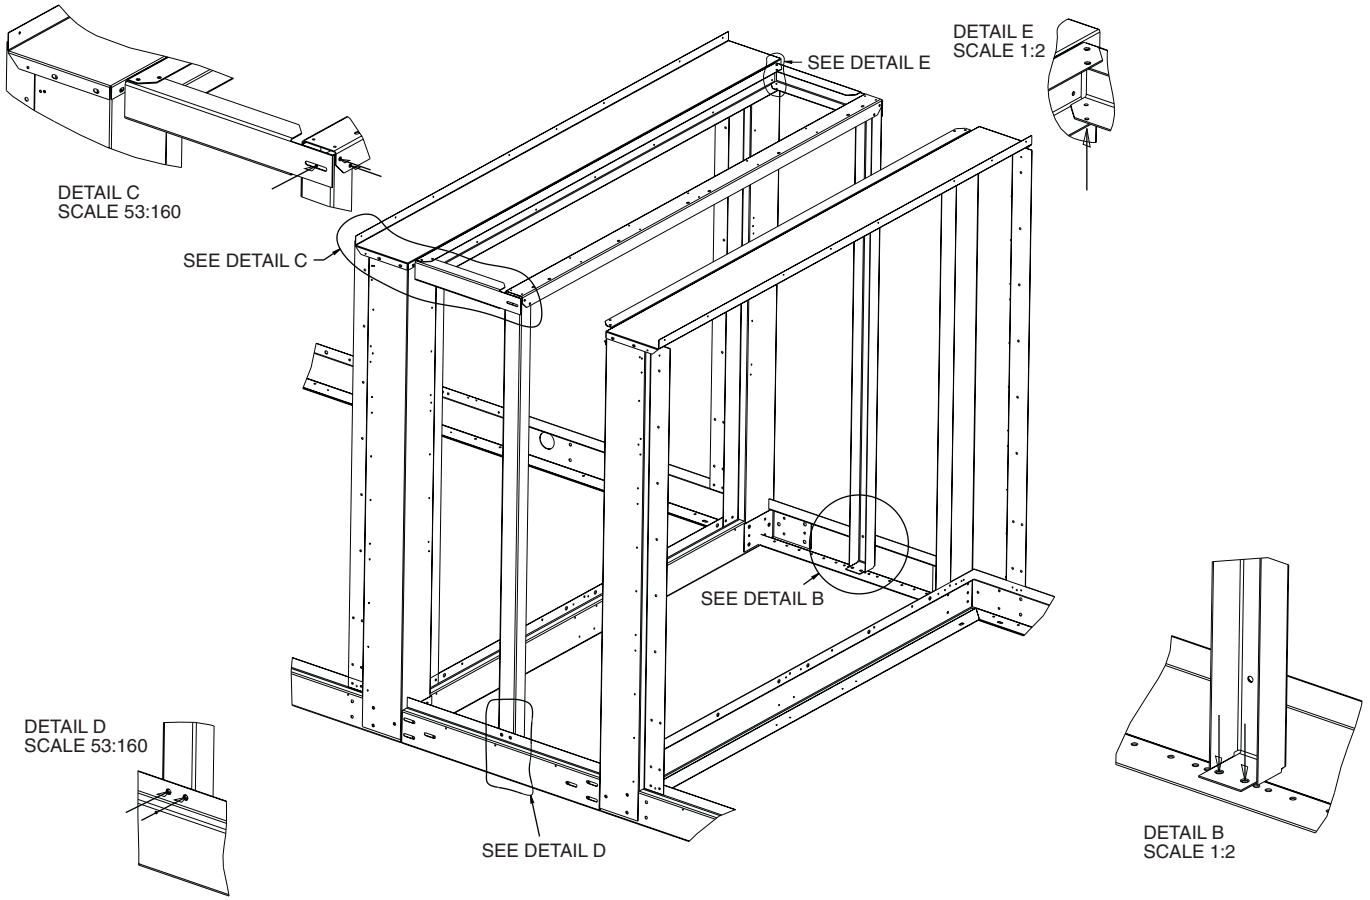

Fig. 4 — Support Channel and Spacer Mounting
6. Using the 3/8-in. screws (Item 9) provided, mount each upright (Item 5) to the center of each base rail section with four screws. See Details B and D in Fig. 4.
8. Using the 1/4-in. screws (Item 8) provided, mount one top support channel (Item 6) across the two uprights mounted in Step 6. Again using 1/4-in. screws, mount the remaining two top support channels to the header end top cover of each module. The channels are mounted with the flanges facing the center section. See Fig. 4.
9. Using the 1/4-in. screws (Item 8) provided, mount the two horizontal spacers (Item 7) on the inside of both ends of one top support channel. Install two screws from the bottom only. Do NOT install any screws from the top as they will interfere with top cover fit-up. Use one screw in the other end of the spacer (slotted end) and secure each spacer to the center upright. See Details C and E in Fig. 4.